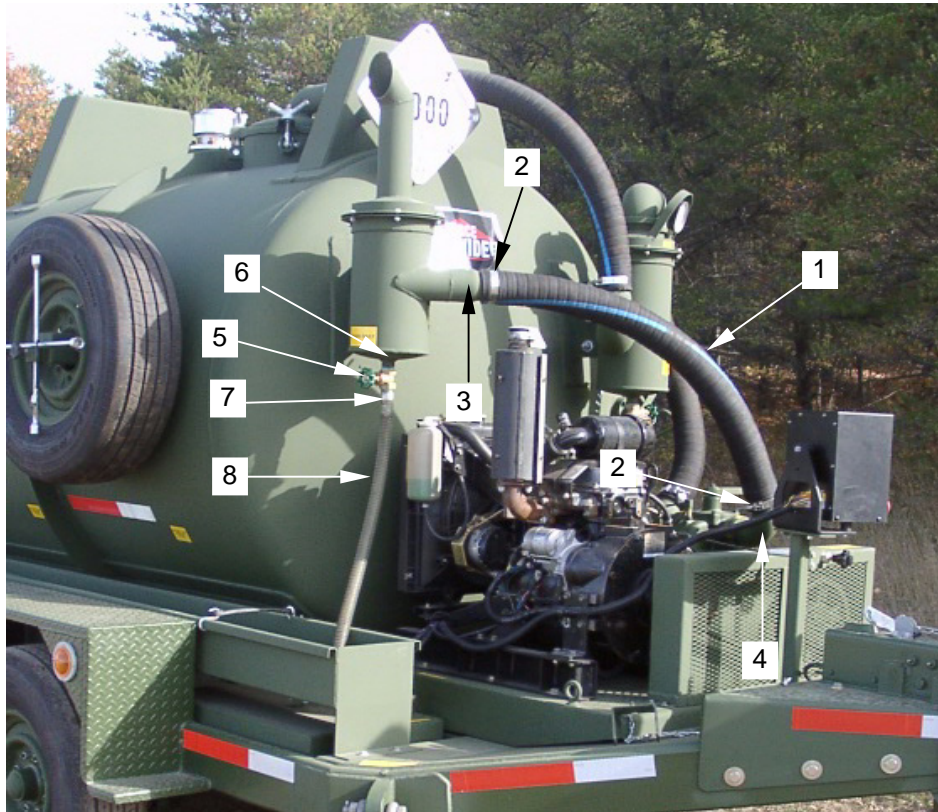

Figure 3. Installing Components onto the Oil Catch Muffler
10. If breather hose (**figure 3, item 1**) is being replaced, place hose clamps (**figure 3, item 2**) over both hose ends and install hose onto oil catch muffler (**figure 3, item 3**) and vacuum pump port (**figure 3, item 4**).
11. Tighten hose clamps (**figure 3, item 2**) securing breather hose to vacuum pump port (**figure 1, item 4**) and oil catch muffler (**figure 3, item 3**).
12. Applying pipe sealant to threads, install the drain valve (**figure 3, item 5**) onto the oil catch muffler drain port (**figure 3, item 6**).
13. Applying pipe sealant to threads install hose nipple (**figure 3, item 7**) onto the drain valve (**figure 3, item 5**) using a pipe wrench.
14. Install the drain hose (**figure 3, item 8**) onto the hose nipple (**figure 3, item 7**).
15. Secure hose with hose clamp (**figure 3, item 2**).